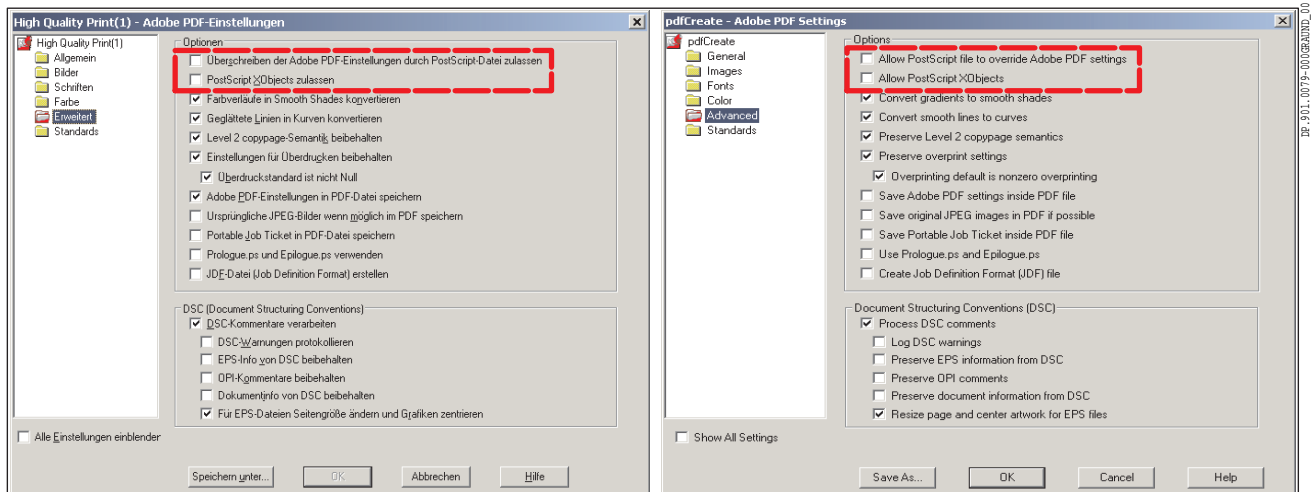

Fig. 25 Extended section
2. Set the parameters in the **Extended** section as shown in Fig. 25.